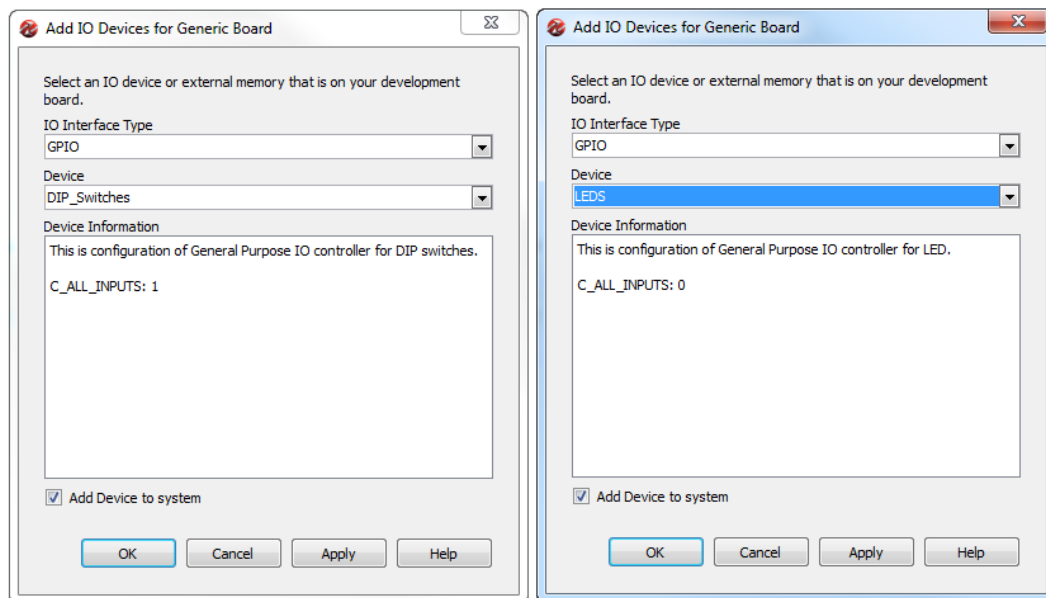
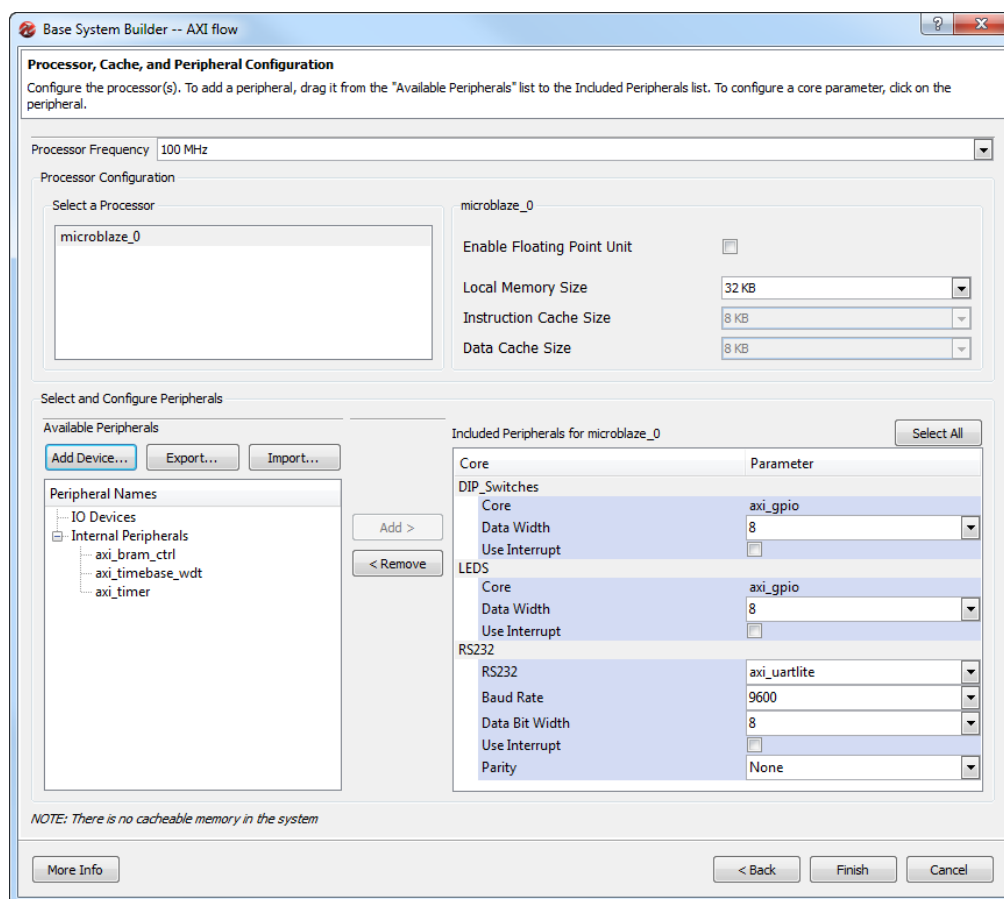

Figure 7: Wizard, Add DIP\_Switches and LEDs Peripherals
Figure 8: BSB Wizard, with Peripherals Configuration Default Values
3. For first peripheral select **IO Interface Type** select **GPIO**. In **Device** *DIP\_Switches*. Leave filed **Add Device to the system** checked (Figure 7). Click on **OK**. In included peripherals for MicroBleze will appear *DIP\_Switches* peripheral with **Core** name (*axi\_gpio*) Default **Data Width 8**, and unchecked filed **Use Interrupt** (Figure 8). Leave all defaults values.